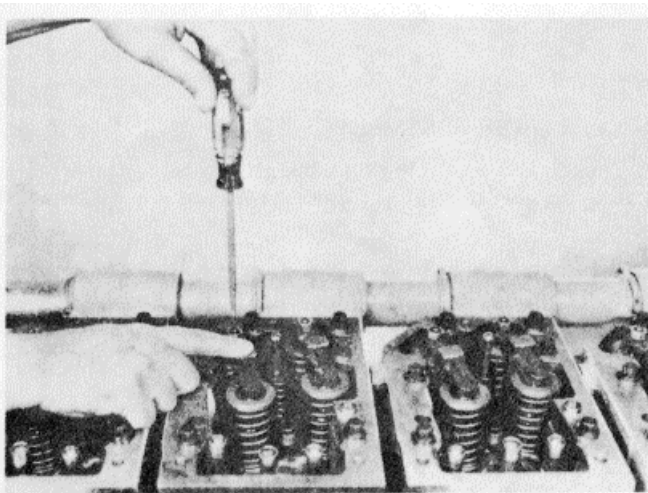

Figure 16N-56. Adjust the Valve Crosshead
4. Use the ST-669 Torque Wrench Adapter to hold the adjusting screw in position. Then tighten the locknut to 22 to 26 ft-lbs (30 to 35 N.m) torque, Figure 16N-57. If the torque wrench adapter is not used, hold the adjusting screw with a screwdriver and then tighten locknuts to 25 to 30 ft-lbs (36 to 41 N.m) torque.